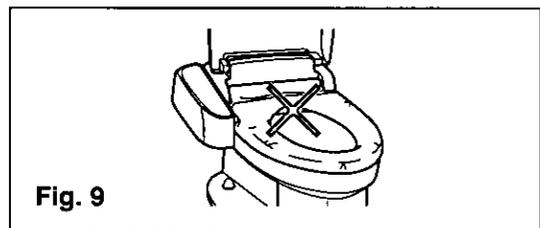

Fig. 9
9. Do not put a cover on the heated seat, as it may affect performance of the seat's temperature control. (Fig. 9) (DL-S20A only)